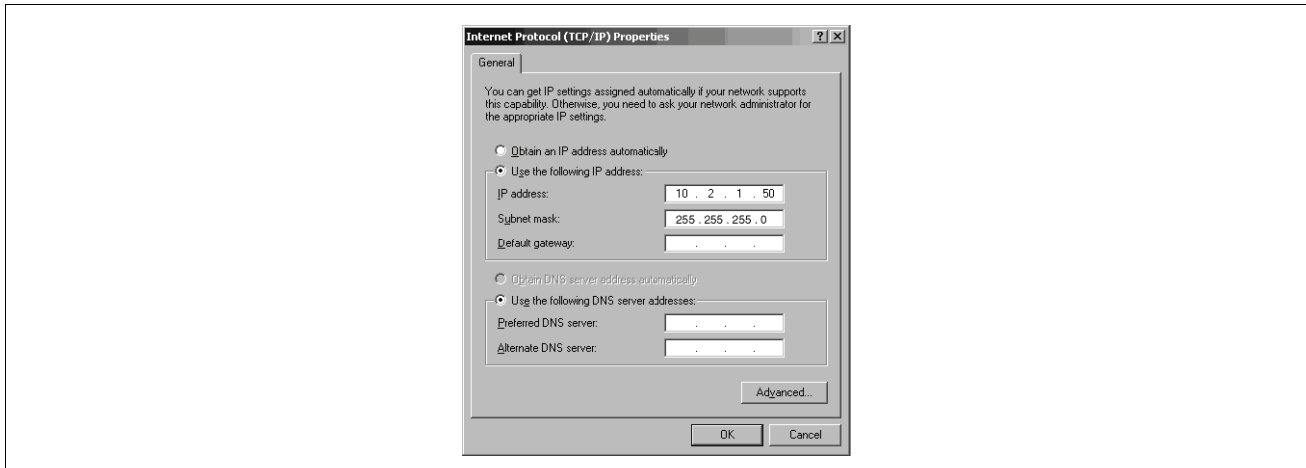

Figure 12. Internet Protocol TCP/IP Properties dialog box
4. In the 'Components checked are used by this connection' window, highlight Internet Protocol (TCP/IP) and then click the **Properties** button to display the Internet Protocol TCP/IP Properties dialog box (Figure 12).
5. Click the **Use the following IP Address** radio button and enter an IP Address and Subnet mask for your PC. You can use an IP address that is one digit off from the customer supplied IP Address you will assign to the console's TDIM Module. For example, if the IP Address for the TDIM Module is 10.2.1.51, you would enter 10.2.1.50 for the PC's IP Address. You also need to enter a Subnet mask. Use the same Subnet mask that is in the example in Figure 12 above (255.255.255.0).
Note: Prior to reconnecting your computer to a network, you will need to select the **Obtain an IP address automatically** radio button as shown in Figure 12 above.